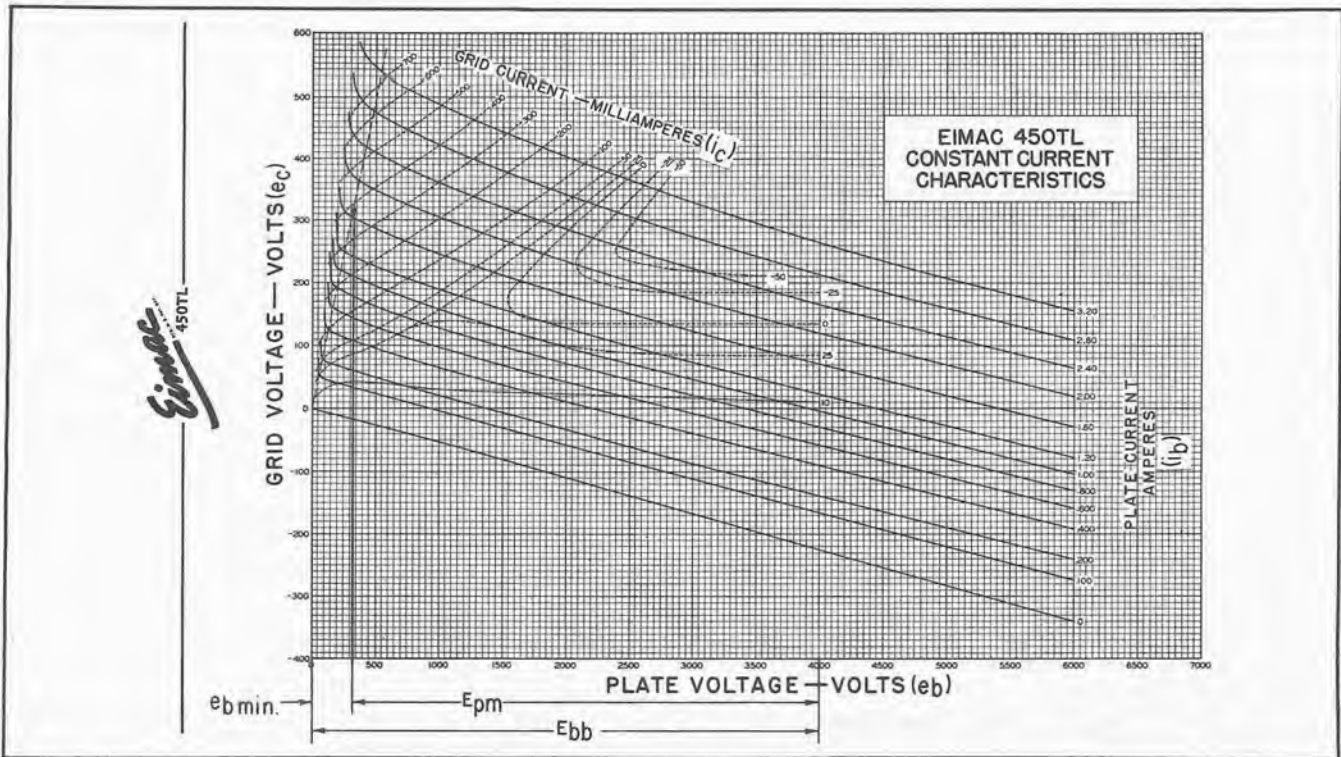

Figure 2. 450TL constant-current characteristics showing method of determining e_{bmin} and E_{pm} in steps 6 and 7 from value of i_b obtained in step 5.
6. $e_{bmin} = 315 \text{ volts (see figure 2)}$